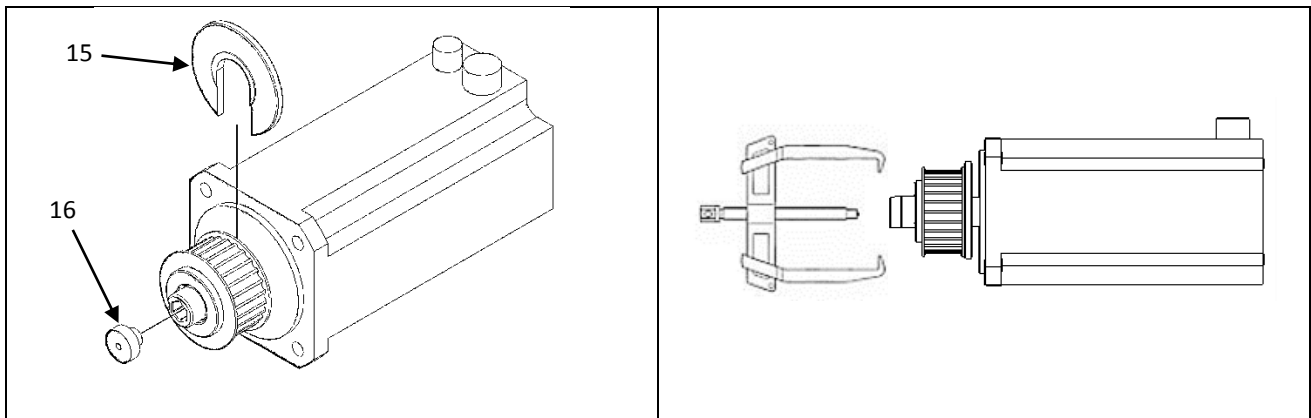

Figure 8.1 – Disassembly of the motor pulley
- Unbend the MB washer (6) to unlock the KM nut (7).
- Unscrew the KM nut countering the torque with the hexagonal wrench on the clamp (4).
- Referring to Fig. 8.1, insert the puller flange (15) on the back of the pulley and the push plate (16) in front of the clamp.
- Remove the pulley from the clamp using a proper mechanical puller: put the bar of the puller onto the push plate (16) and the jaws of the puller on the puller flange (15).